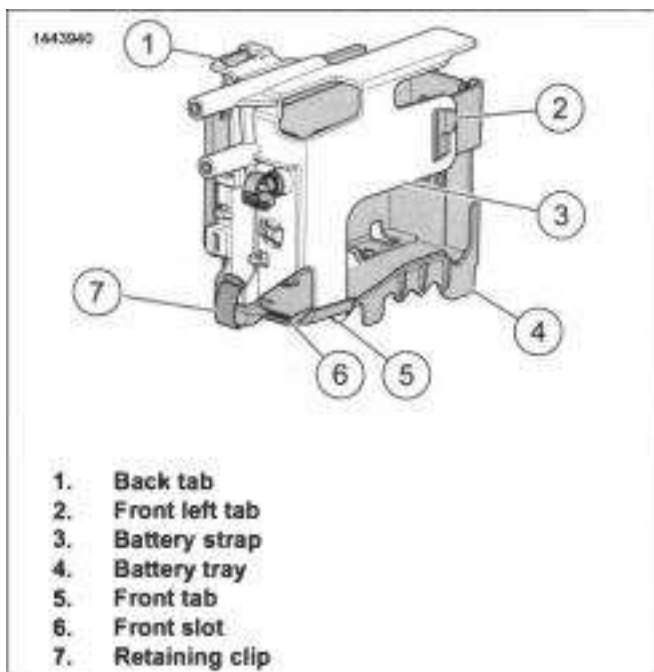

Figure 2-49. Battery Strap and Tray: (Removed for clarity)
6. See See Figure 2-49.. Remove battery strap (3).
- a. Disconnect back tab (2) from battery strap to battery tray (4).
- b. Disconnect front left tab (1) from battery strap to battery tray.
- See Figure 2-49. Install battery into battery.